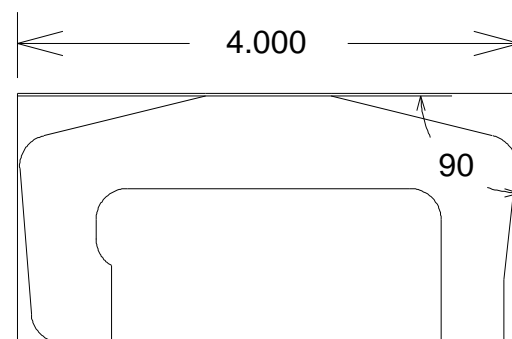

Fig. 2 Square Ends & Cut to Length
04. Mill the ends square to the edges, maintaining the overall length per Dwg. 2200-51 (see Figure 2):